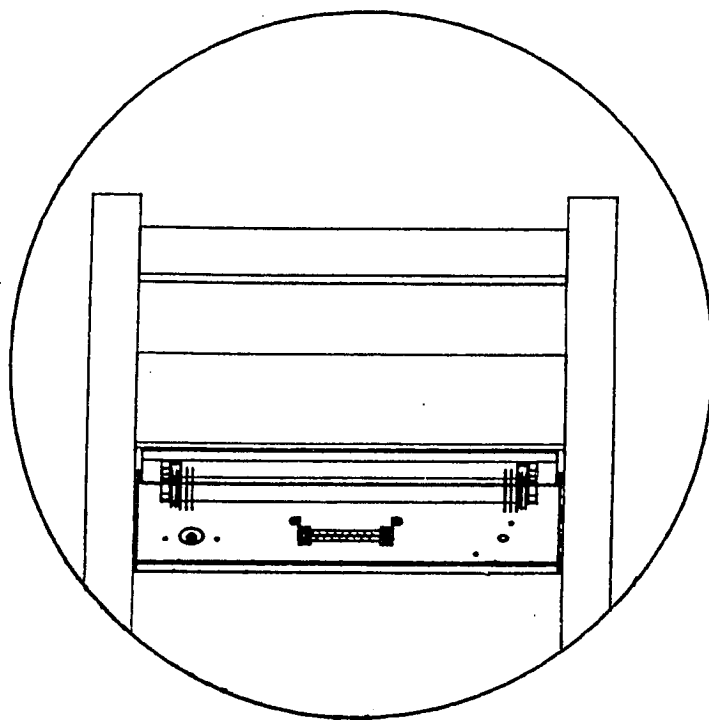

Fig. 2
Swing Door - Glass or Solid - If door removal is necessary, (remove sign by lifting up and out, CF Model only disconnect power) hold door securely and remove top hinge by unscrewing two (2) 1/4-20 hex head screws. Remove hinge from cabinet and lift door off bottom hinge. Replace door by reversing above method. Adjust Door - Bottom hinge is adjustable. Simply loosen the screws that hold the hinge to the cabinet, the top hinge and the bottom hinge have two (2) 1/4-20 hex head screws. By loosening the bottom hinge the door is adjustable up and down. (See Fig. 2 for Door Removal)